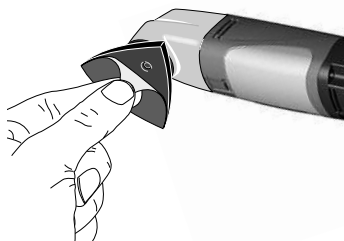

Fig. 3
1. Hold grinding wheel at one corner (Fig. 3) to remove.
1. Remove grinding wheel (Fig. 3)